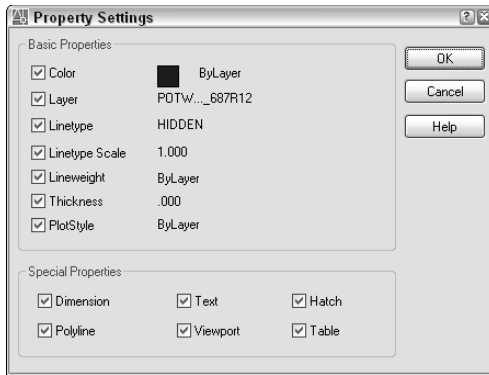

Figure 11-30: The Property Settings dialog box.
4. If you want to match only some of the object's properties, right-click and choose Settings to open the Property Settings dialog box, shown in Figure 11-30. Uncheck all of the properties that you don't want to match and click OK. The previous prompt returns. Select the object(s) that you want to receive the matching properties, that is, the destination objects(s).